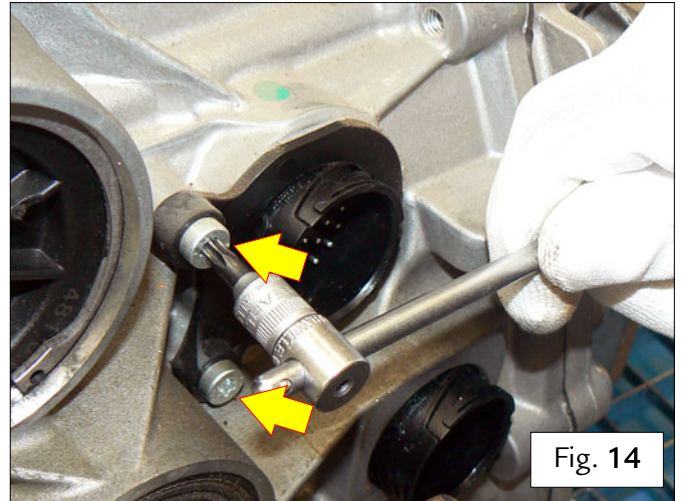

Fig. 14
- Place a container for collecting the fluid under the ATF clutch fluid drain plug orifice – Fig. 14.
- Undo the indicated ATF clutch fluid drain plug – Fig. 14.
- Undo the indicated screws fastening the adapter – Fig. 14.